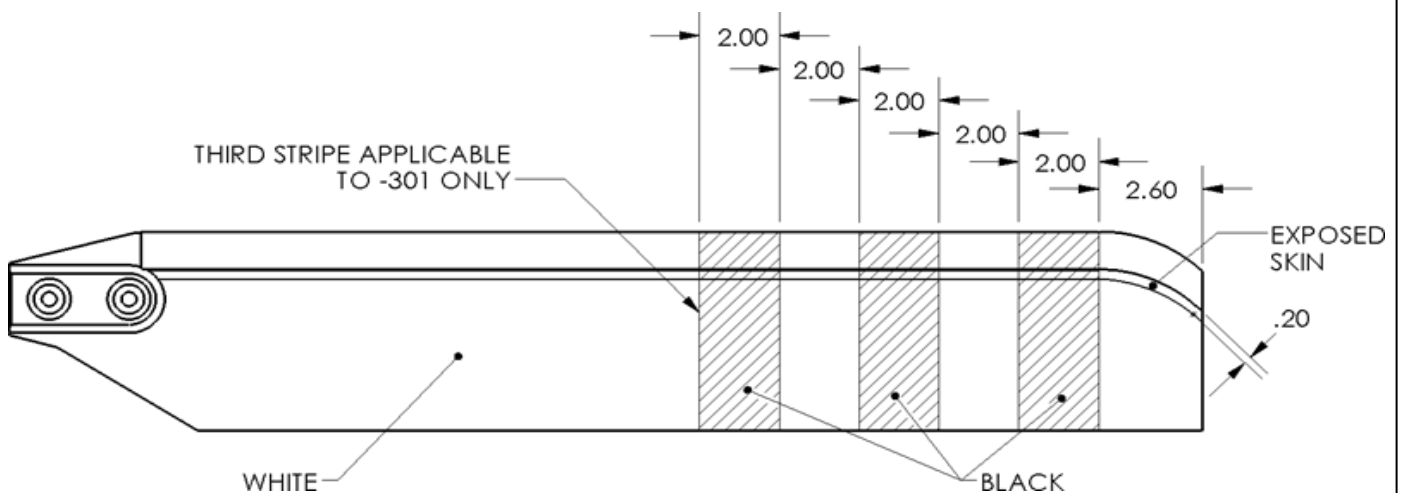

Figure 5-5
- c. Exposed carbon fiber skin not exceeding 0.20 inch aft of the abrasion strip trailing edge must be protected by at least one coat of epoxy primer within 25 flight hours of exposure or 60 days, whichever occurs first. See Figure 5-5.
Paint color should be as close as possible to the original color, but an exact match is not necessary. Single stage paint used in production is Axalta™ Imron® Elite (gloss white and gloss black). Primer used is Axalta™ Corlar® 13580S. Any aerospace quality polyurethane paint may be substituted. Use a compatible non-chromate epoxy primer. Matte topcoat system is Toughguard® TG-NHP-701 base, 28% TG-NHP-702 matte additive and 3% TG-NHP 703 fluoropolymer additive. Paint color scheme is a white blade with three black stripes, see Figure 5-5.